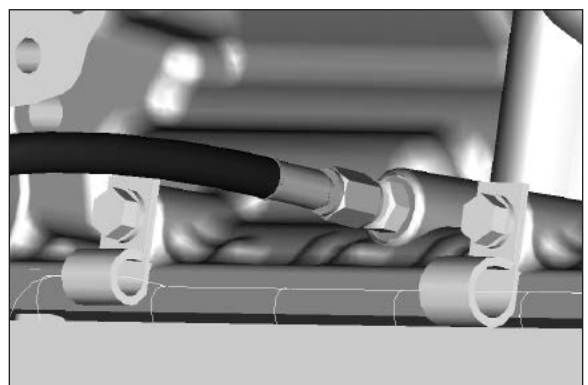

Figure 37
8. Using the special fitting (379812) to securely attach the high pressure line to the transmission. This fitting is included with the PTO. Tighten to 8-10 lb-ft [11.0-13.5 N-m] (**Fig. 37**).